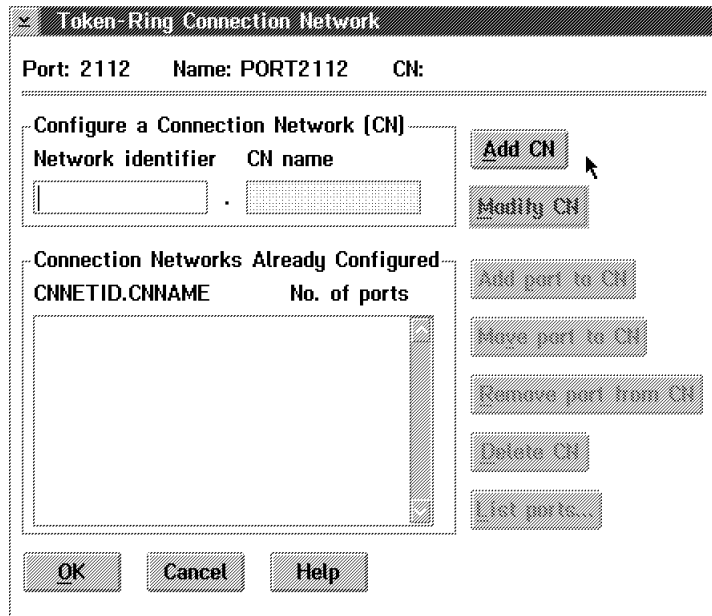

Figure 6-4. Token-Ring Connection Network Window
**Step 20. Connection network** → **Token-Ring Connection Network** window (see Figure 6-4).